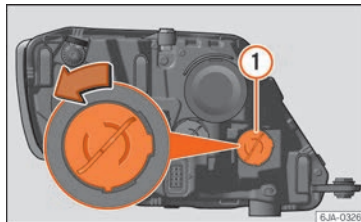

Fig. 94 Changing turn signal bulbs.
- Turn the bulb holder »» Fig. 94 ① anti-clockwise and remove it.